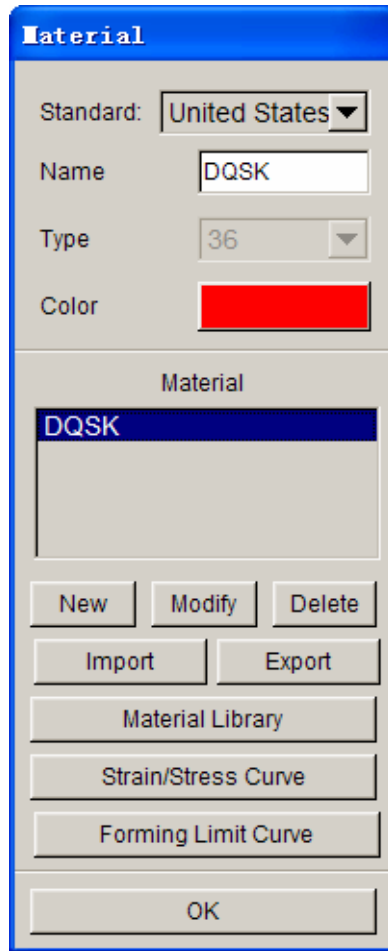

Figure 1.26: Define Material dialog box
- 5) Click OK to return to Material dialogue box. Selected material type in the last step is added to the Material List. See figure 1.26.